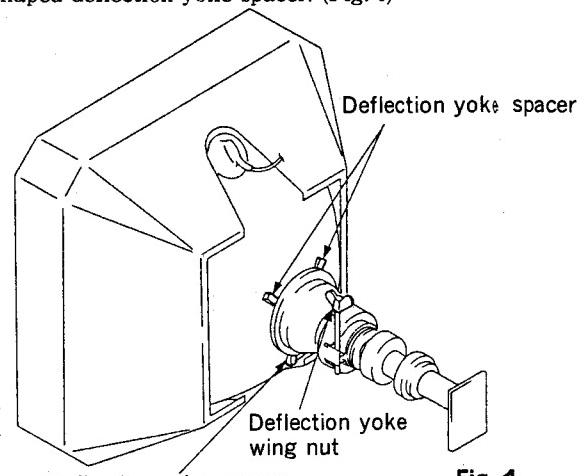

Fig. 4
- (7) Back out the deflection yoke slowly and stop when a uniform green is achieved on the screen.
- (8) Next, set to red only.
- (9) Perform the adjustment for a uniform red on the screen using the ( $\ll$ ,  $\gg$ ) keys.
- (10) Similarly perform adjustment for uniform blue on the screen using the ( $\ll$ ,  $\gg$ ) keys.
- (11) Confirm that the landing of red, green and blue is correctly adjusted. If mislanding is observed, repeat steps (5) through (10) again.
- (12) Tighten the deflection yoke. (Fig. 4)
- (13) If the vertical convergence is not adjusted correctly on the X-axis, tilt the deflection yoke and insert the wedge-shaped deflection yoke spacer. (Fig. 4)